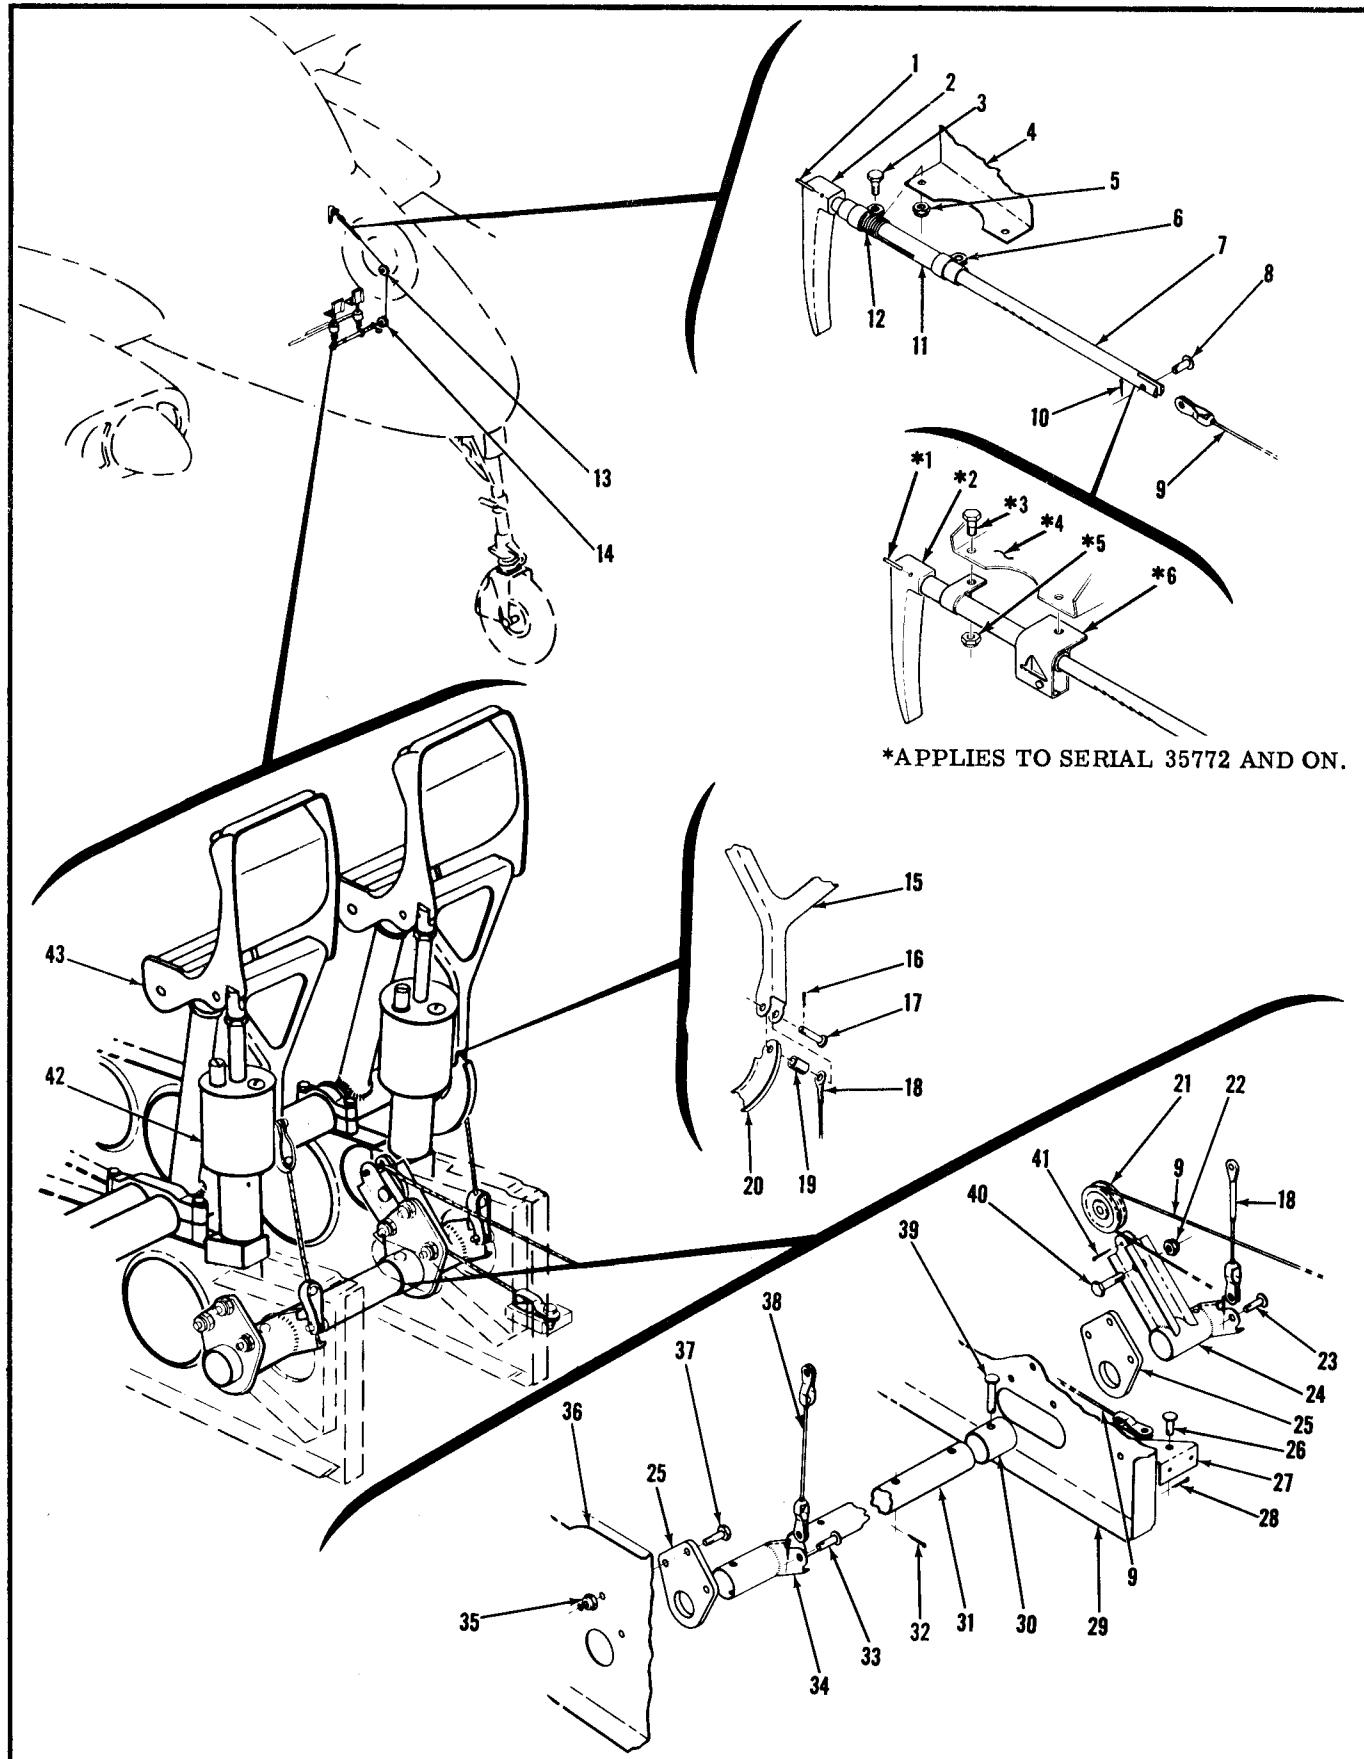

Figure 2-68. Parking Brake System
2-355. REMOVAL OF PARKING BRAKE SYSTEM. (See figure 2-68.)
2. Remove three nuts and bolts attaching left torque tube support (25) to left rudder pedal bracket (29) and remove.
3. Slide torque tube (31), with attached components, outboard to clear hole in right torque tube support (25), then work forward to clear the floorboards.
4. Remove three nuts (35) and bolts (37) to remove right torque tube support (25).
5. Further disassembly of removed components can be accomplished as shown in figure 2-68.
- i. To remove parking brake cable (9), detach from cable bracket (27) by removing cotter pin (28) and pin (26), and work free of routing holes in forward cabin bulkhead.
2-356. INSTALLATION OF PARKING BRAKE SYSTEM. (See figure 2-68.)